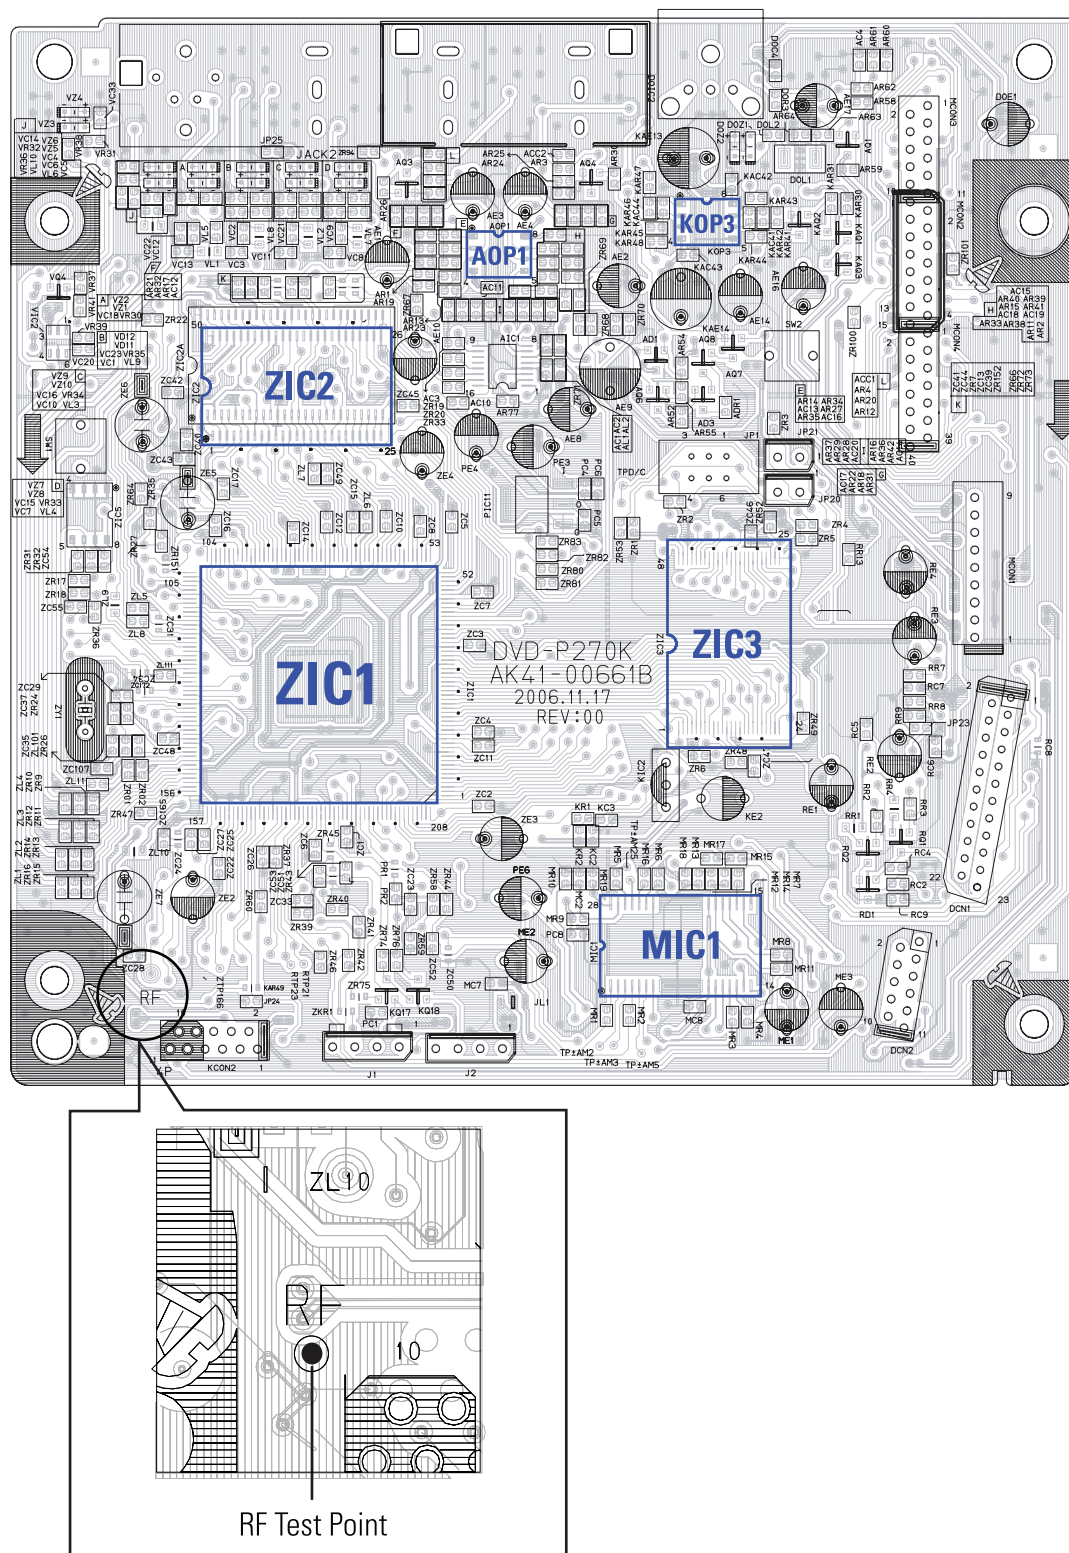

Fig. 3-1 Location of Test Point
- 1) Connect an Oscilloscope to the "RF" Test Point (See Fig. 3-1).